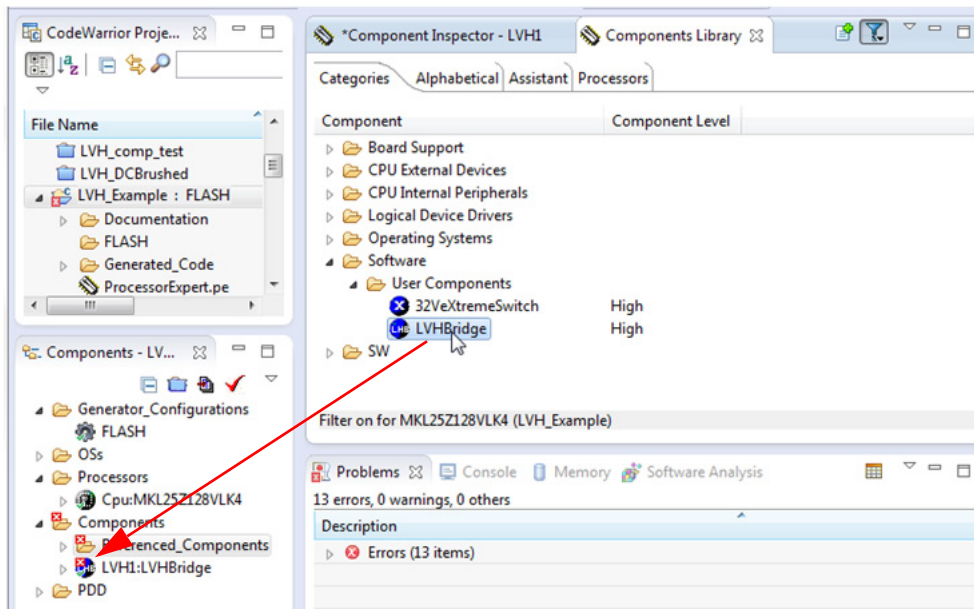

Figure 12. Add the LVHBridge Component to the Project
1. Find LVHBridge in the **Components Library** and add it into your project (see Figure 12).